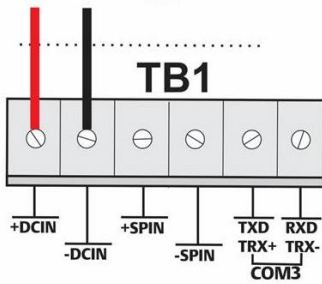

Figure 8. Wiring to DC Power Supply
- Insert each bare wire end into its appropriate connector and secure the wire (see *Figure 8*).